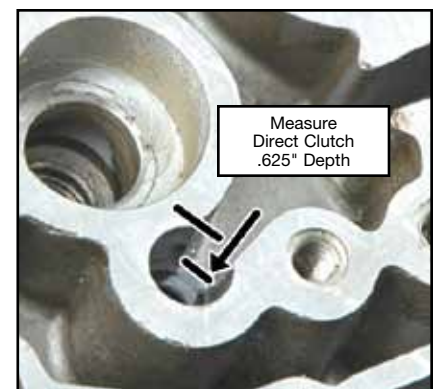
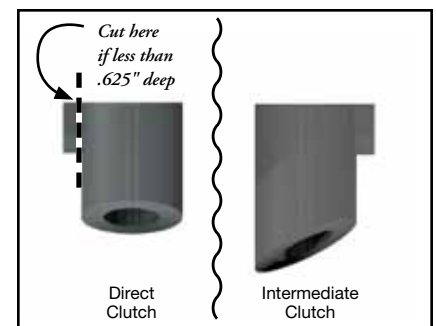

Figure 2
Figure 3
- A. If the distance from the valve body gasket surface to the cast passage (see Figure 2), is more than (.625") install the seal as is.
- B. If the distance from the valve body gasket surface to the cast passage (see Figure 2), is less than (.625") cut the nub off of the side of the direct clutch seal (see Figure 3).